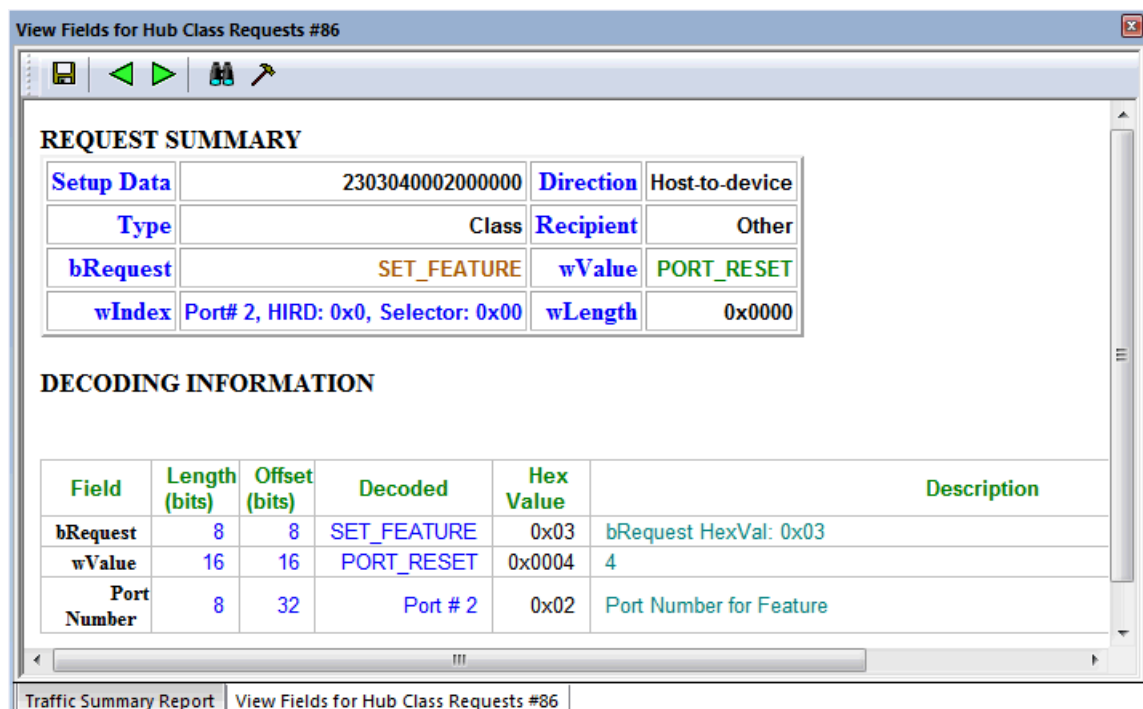

Figure 8.8: View Fields for Hub Class Requests Dialog
1. From the USB Device Request menu, select **Decode ... Request** to display the View Fields for ... Class Requests text box (see Figure 8.8 on page 210).